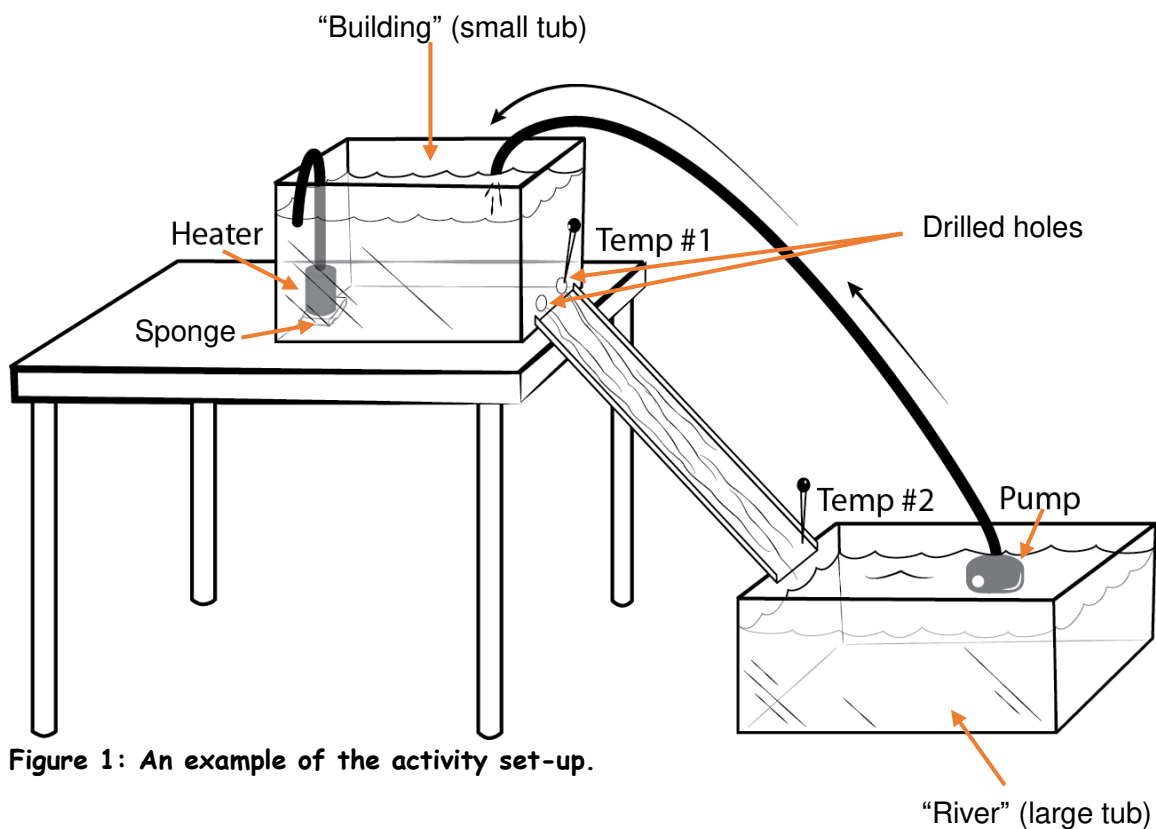

Figure 1: An example of the activity set-up.
- Drill one or two 0.25" holes near the base of the long side of the small water tub. See Figure 1 for a visual guide.